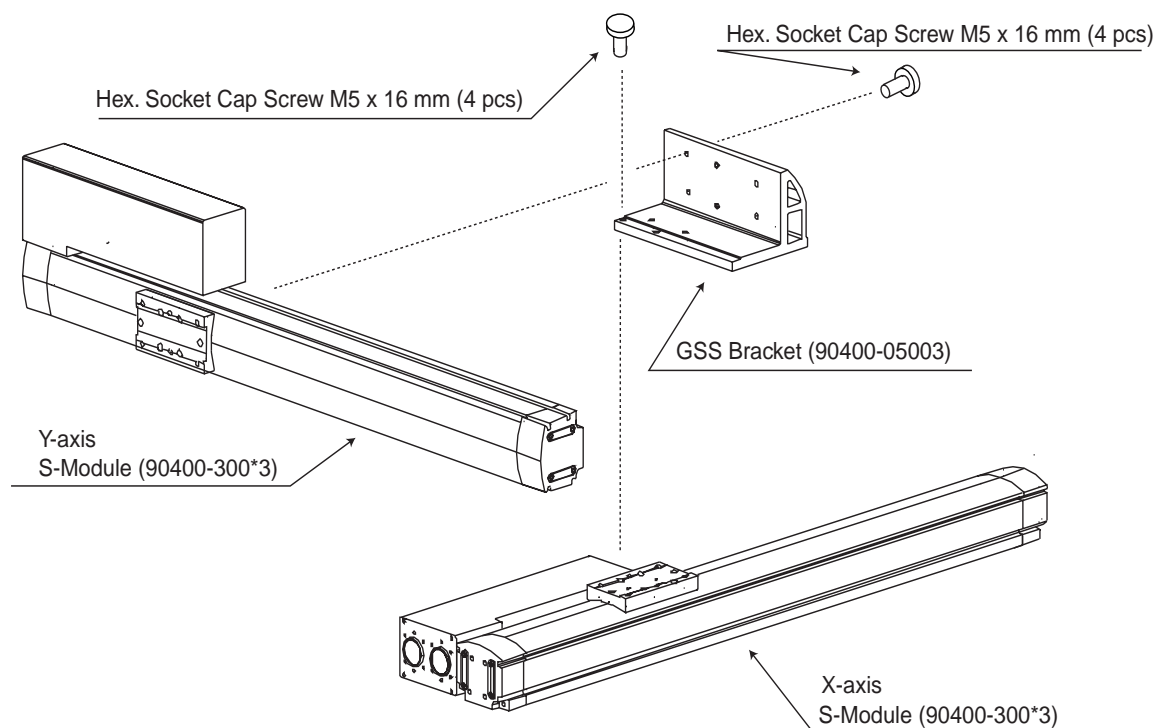

Figure 4-10. G-3 Type Mechanical Assembly
4. Mate the Y-axis to combining bracket by aligning the motor-side pin holes on the Y-axis module to the pins on the side of the bracket (these holes are on the side opposite the sliders). Carefully mate the pins and pin holes to avoid damaging the pins. Install the mounting bolts (see Figure 4-10).